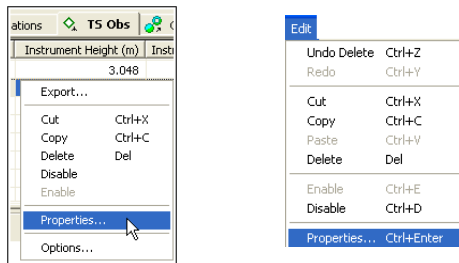

Figure 5-91. Ways to Open Properties
- Right-click the selected occupation(s) and click **Properties** on the pop-up menu, or click **Edit ▶ Properties** (Figure 5-91).